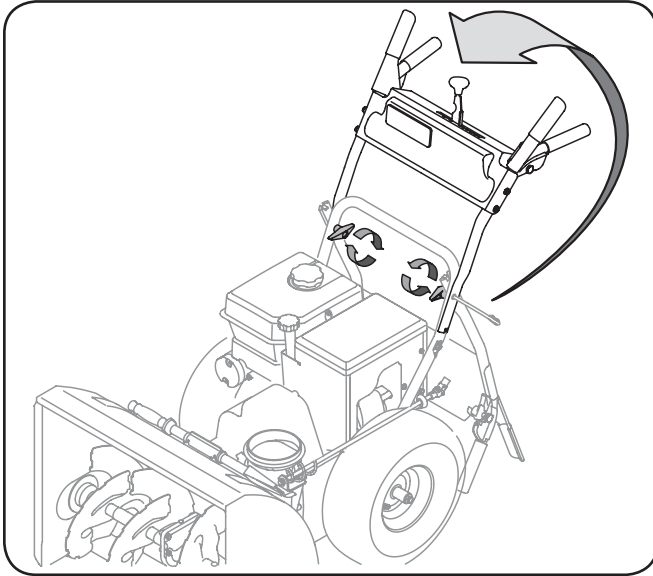

Figure 3-22
2. Observe the lower rear area of the snow thrower to be sure both cables are aligned with roller guides before pivoting the handle upward. See Fig. 3-22.